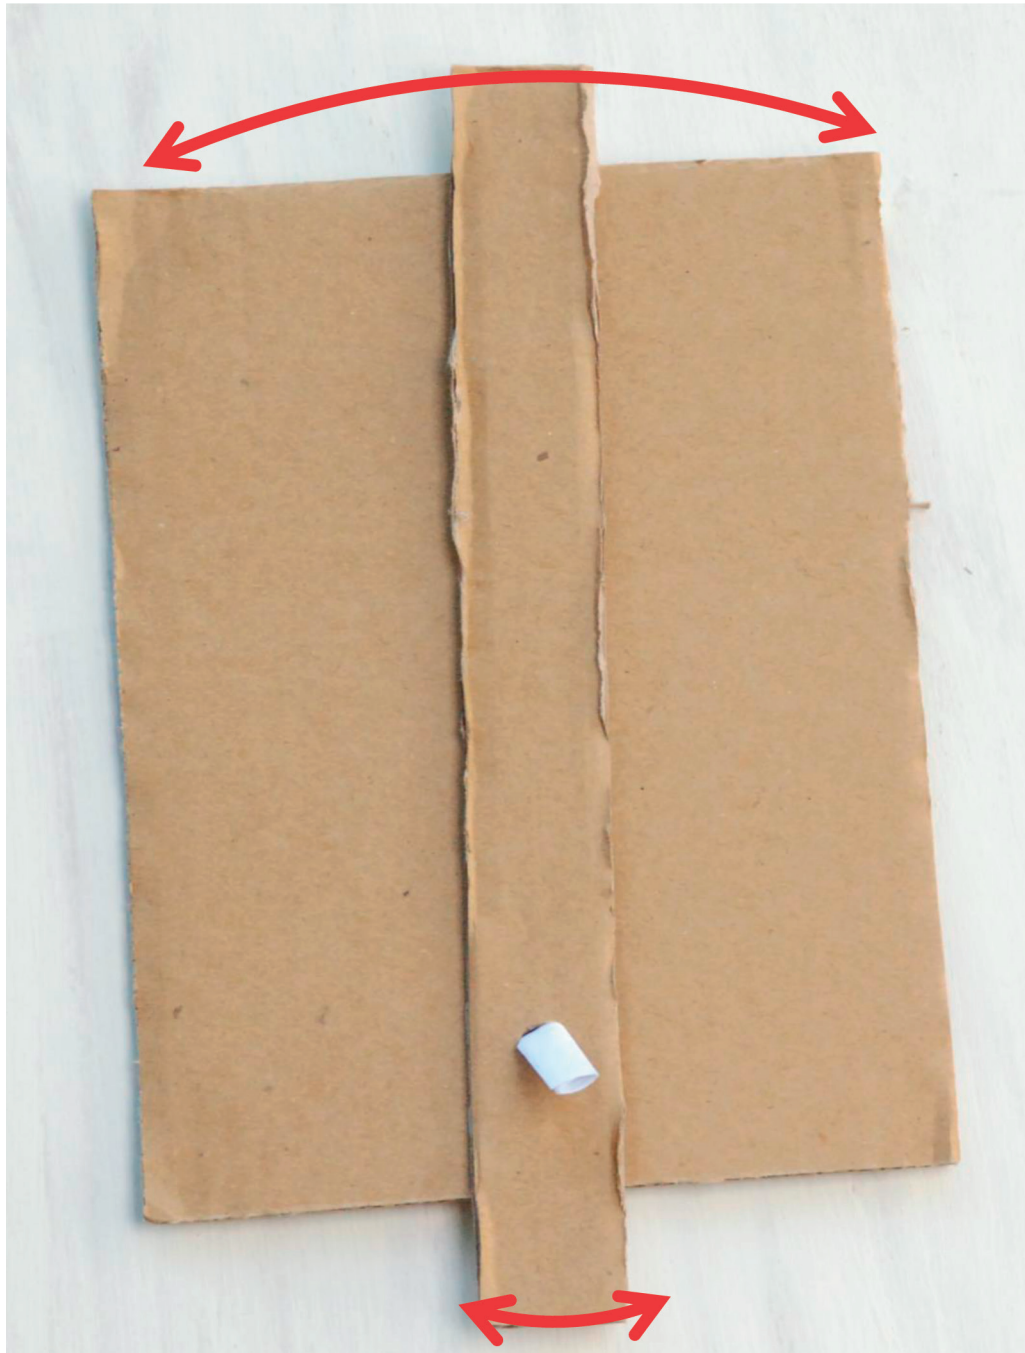

Figure 14
2. Before you start, look carefully at the photo in Figure 14. Make sure you understand how your lever will work.